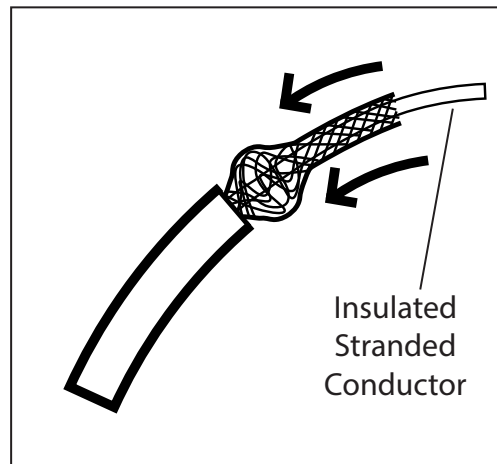

Fig. 2
3. Slide the outer braided conductor back to create a bulge and reveal the inner stranded conductor (Fig. 2).